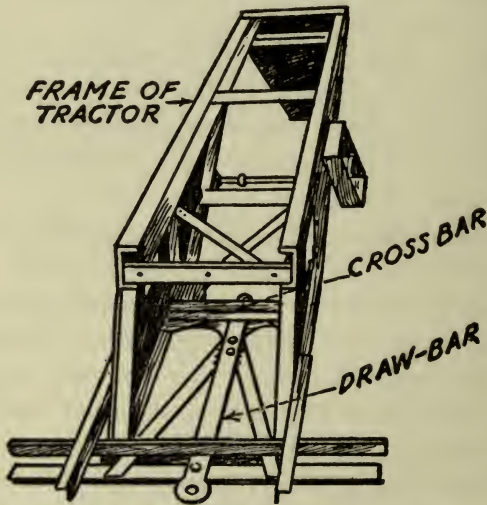

FIG. 5.—THE DRAW BAR ON A TWIN CITY TRACTOR FRAME
The Draw-Bar.— The draw-bar is usually fixed to a cross brace on the frame, as shown in *Fig. 5*, that sets in front of the rear axle and it should have a coil spring suspension to allow it to give a little and to absorb the shocks. The coupler end sets well back of the rear axle so that plows and other implements can be easily and quickly hitched to it. In some tractors the draw-bar is (1) *rigid*, and in others it is (2) *pivoted* to allow it to move from side to side, while in a few it is (3) *swivelled* so that its height can be adjusted.